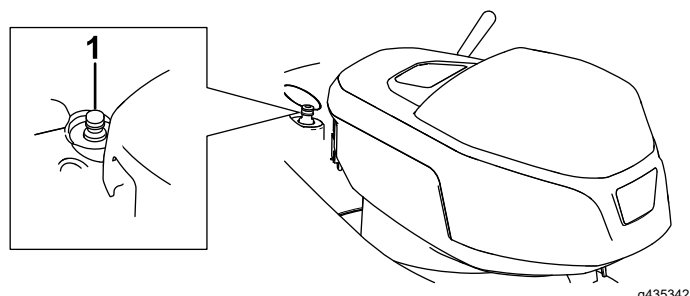

Figure 24
- Attach a garden hose that is connected to a fresh water supply to the quick-wash port (Figure 24).